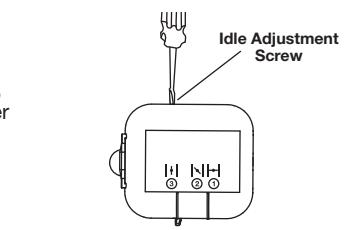

Fig. 19
The idle speed of the engine is adjustable. An idle adjustment screw is between the air filter cover and the engine starter housing (Fig. 19).
2. Release the trigger and let the engine idle. If the engine stops, insert a small Phillips screwdriver in between the air filter cover and the engine cover (Fig. 19). Turn the idle speed screw 1/8 of a turn clockwise at a time until the engine idles smoothly.